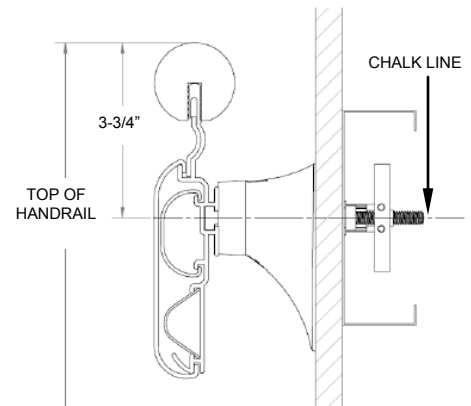

Figure 2
STEP 1. Using the correct plans, layout guides and local code requirements layout and mark the location of the handrail on the wall at the appropriate height above the finished floor. Measure 3-3/4" down from the desired top of the handrail and mark this location at each end of the run (See Figure 2). Snap a chalk line, or use a laser level to mark the height of the standoff fasteners.
STEP 3. Layout the handrail runs, marking the location of each standoff along the chalk or laser line (See Figure 2). There must be a standoff located 6" from the start and the end of each run. Standoffs must be located 6" from all outside corners and 10" from all inside corners. The remaining standoffs are to be spaced a maximum of 32" O.C.. Make sure there is an equal distance on both ends of the handrail run from door jambs and windows (see Page 5 Minimum Layout Configurations).